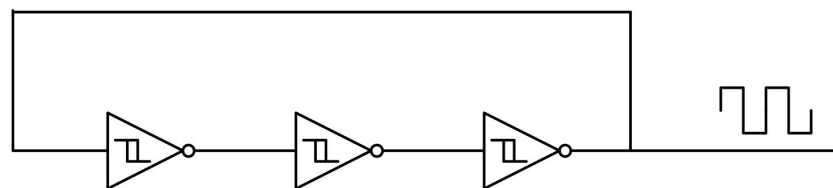

Figure 1: A simple square wave generator using schmitt trigger inverters.
Oscillators necessary for almost every computing devices. This assignment we will make a simple and very poor clock generator (*figure 1*) using three schmitt trigger inverters.
- Build the circuit shown on figure 1. using the inverter IC. Make sure you have short wires, proper decoupling, grounding unused inputs and use 3-3.3 V as supply voltage.